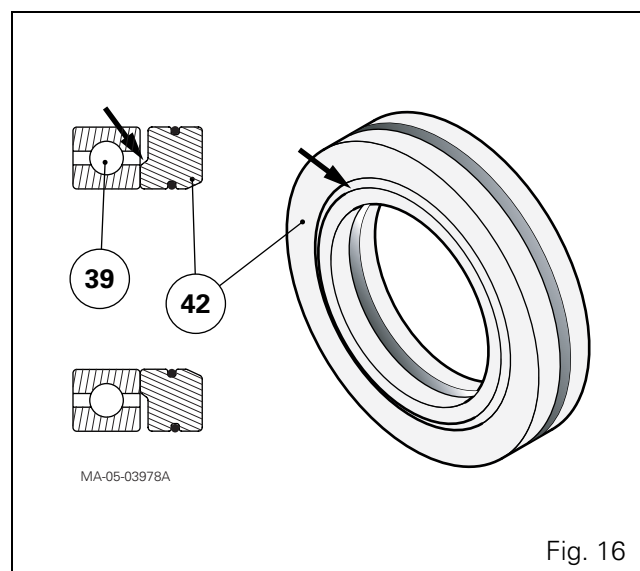

Fig. 16
67. If the needle bearing (60) supporting the PTO shaft has been removed (step 49), replace it with a new one.
68. Grease the "O" ring (41) and ring (43). Fit them on the sealing ring (42).
69. On the shaft (1):
- insert the bearing (39)
- insert the ring (42).**IMPORTANT:** Ensure the sealing ring (42) is positioned correctly Fig. 16. Its shoulder (arrow) should be facing the bearing (39).
71. Fit the hub (20) in the unit (14).
72. Slide on the discs (16) and thrust plates (15).